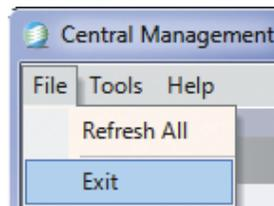

Figure 2-13 Exit CM
- From the **File** menu, select **Exit** (Figure 2-13).